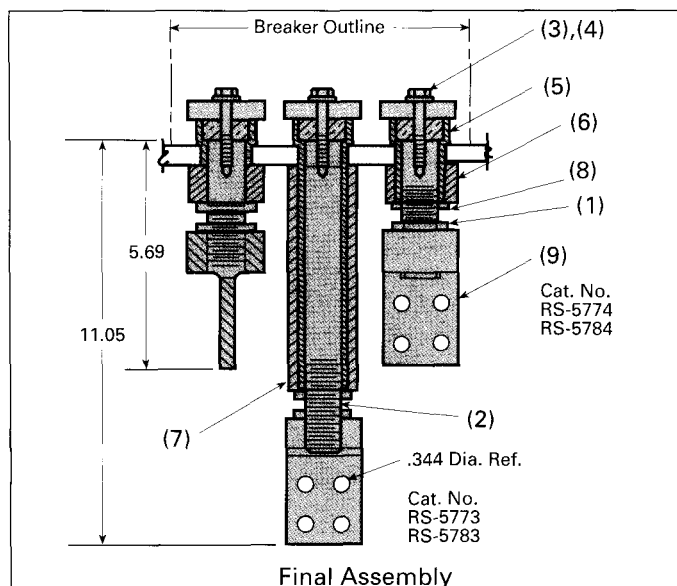

Figure 3
Final Assembly (Figure 3)
- C. Make desired bus bar connections with 5/16" bolts and washer to "T" connectors. (See Figure 3 for hole pattern of "T" connector).